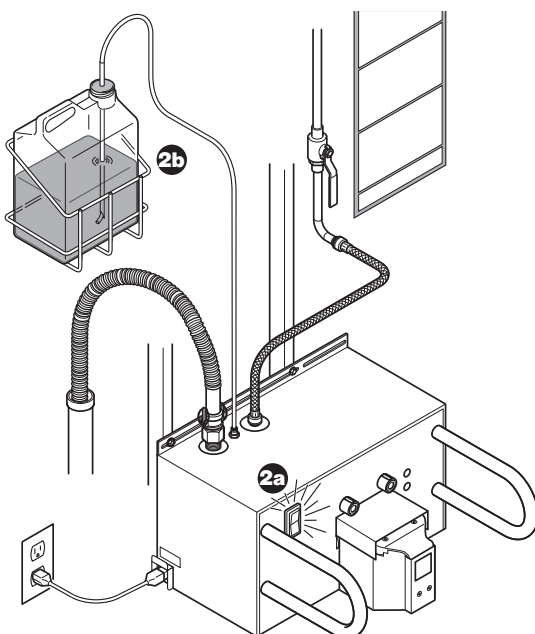

Figure 13 To Prepare the Docker
2. To Prepare the Docker (Figure 13)